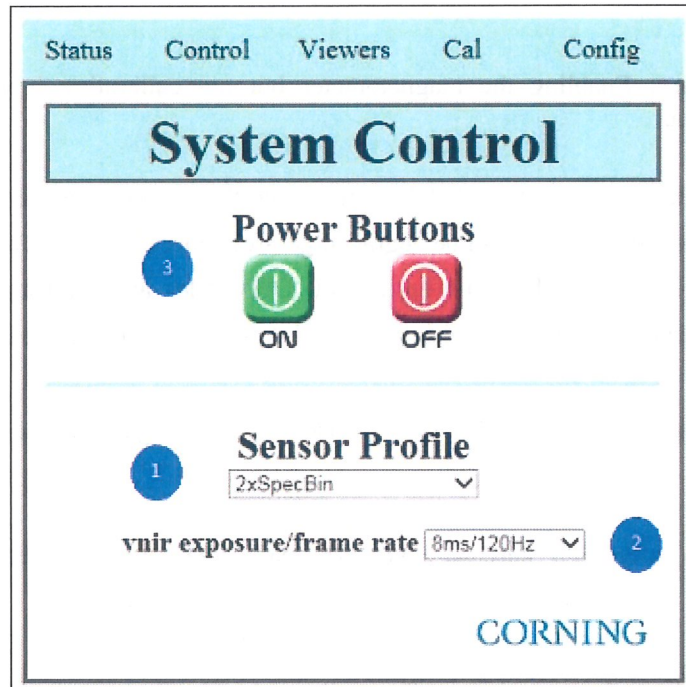

Figure 10: Sensor System Control
2. Press the “Off” button to close the profile. See Figure 10.
3. Select the “System” link from the “Control” tab. See Figure 10.
4. Select “SystemPower” from the “Sensor Profile” drop down list (1). Press the “Off” button. The computer will begin shutting down. When the green power LED turns off it is safe to switch the unit off.